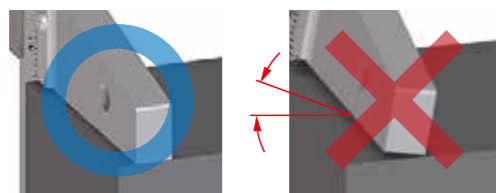

Fig. 5
1. Perform measurement while the reference surface is fully in contact with the workpiece. (Fig. 5)